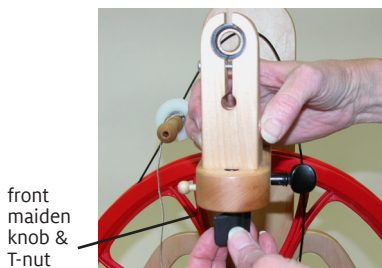

FIGURE 2: REMOVE STANDARD FRONT MAIDEN
2. Unscrew the front maiden knob (Figure 2). Remove it from the wheel, leaving the T-nut slide on the knob shaft. You will use these parts in Step 6.